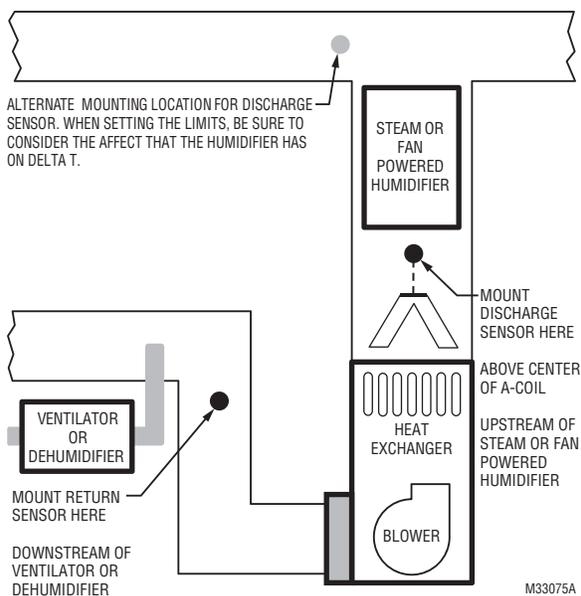

Fig. 11.
2. When possible, mount the Discharge Air Temperature Sensor upstream of a Steam Humidifier, a Fan Powered Humidifier or a Dehumidifier that is ducted to the supply. See Fig. 11–12.
See Fig. 11. When setting the Delta T Limits (see “Set Delta T Limits” on page 89), be sure to consider the affect that the humidifier has on Delta T.